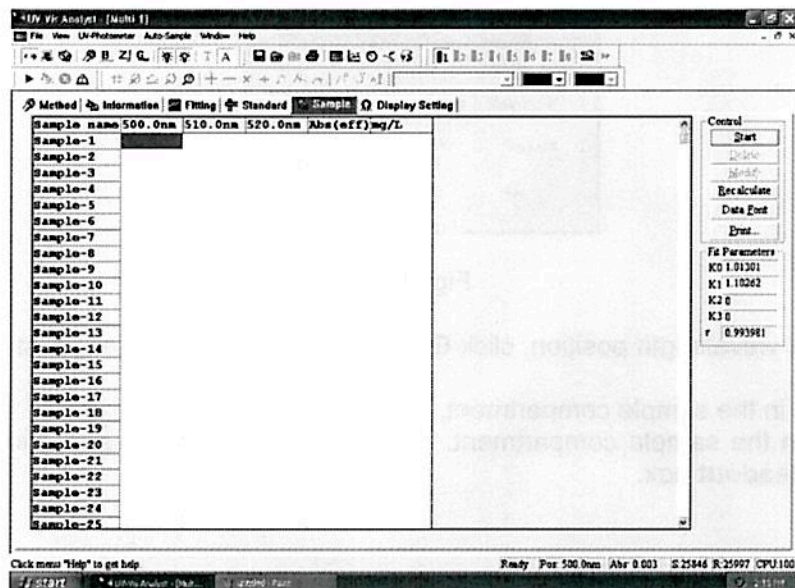

Fig. 4-3
- Click the **Sample** tab. It will display the following (Fig. 4-3). The control menu contains six buttons: **Start**, **Delete**, **Modify**, **Recalculate**, **Data Font** and **Print**.